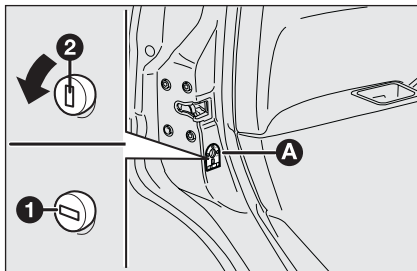

fig. 17
### CHILD LOCK fig. 17
*Release of the child lock A-fig. 17 is only guaranteed if the lock is turned and snaps into the vertical position 2.*